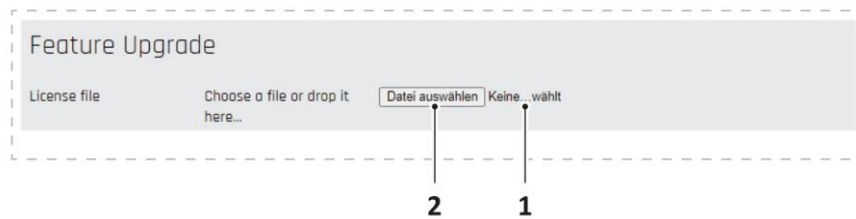

Figure 43 "Configuration" screen, "Feature Upgrade" section
2. Click on the browse button (Figure 43/2).
- The file is uploaded and its name is displayed in the file name field (Figure 43/1).